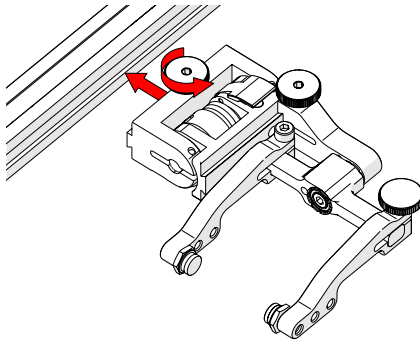

Fig. 151 - Attach to frame bar
1. Rotate the probe holder adjustment knob and attach the probe holder to a frame bar (Fig. 151).